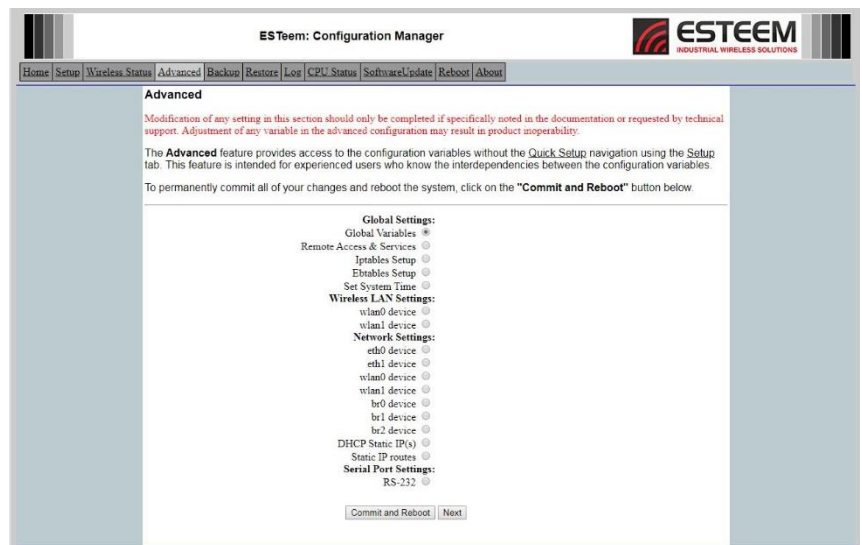
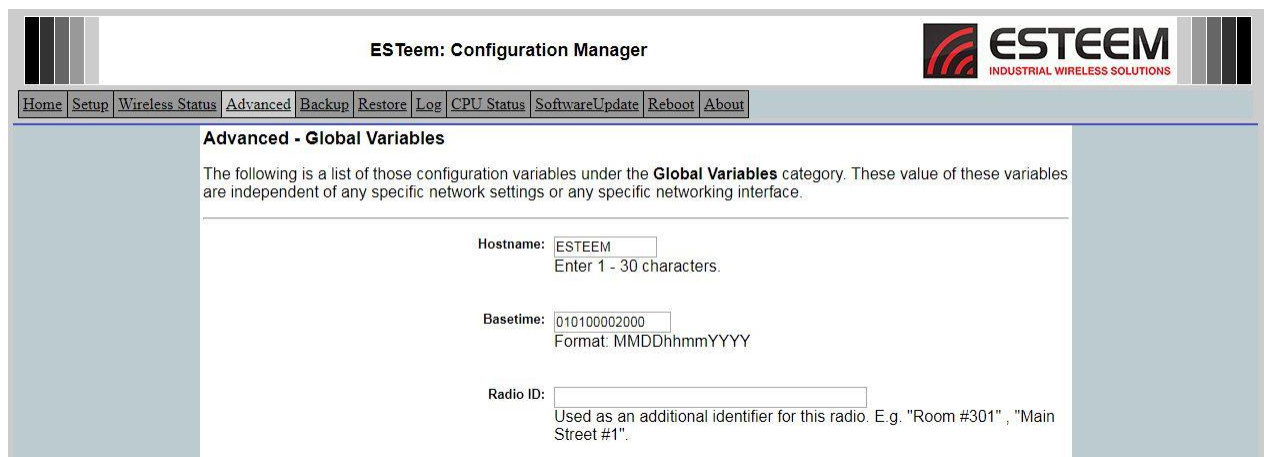

Figure 3: Advanced Global Settings Screen
Figure 4: Modem ID Field in Global Variables Screen
1. The Radio ID field can be adjusted under the *Global Variables* of the Advanced Menu tab (Figure 3). Select Global Variables and press the *Next* button. Figure 4 will be displayed.
2. Enter the text you would like displayed in the Radio ID field (Figure 4). When complete, press the *Save Settings* button and the *Commit Changes* button on the next screen to save the name to the Horizon.